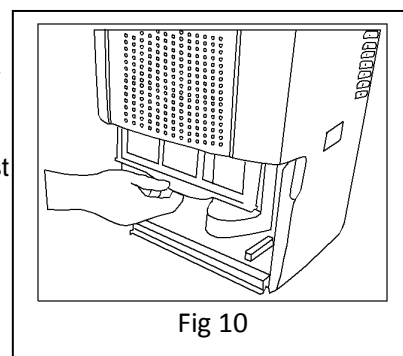

Fig 10
- Remove the bucket and pull filter downwards. (Fig 10)